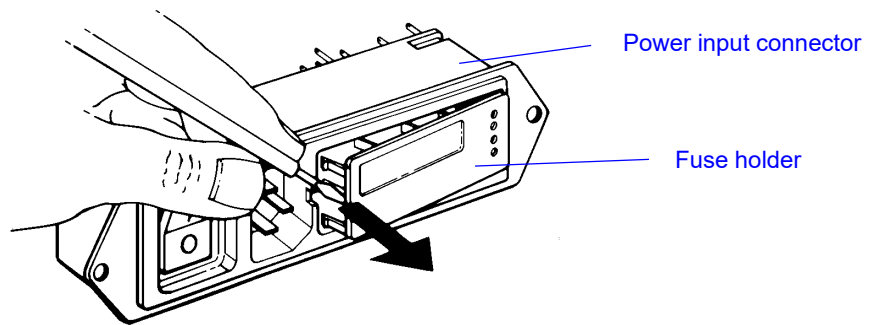

Figure 4-3. Prying Out the Fuse Holder
1. Ensure that the power switch is in the Off (O) position and disconnect the power cable from the power source. Verify that the **POWER** indicator light is not illuminating.
2. Insert a small flat-head screwdriver into the middle of the connector and pry out the fuse holder, as shown in Figure 4-3.